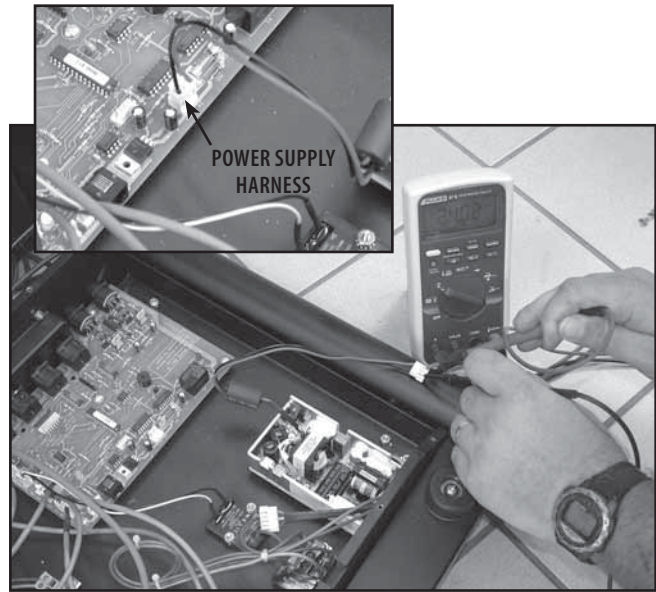

FIGURE 4.8
5. If LED is not illuminated, remove the Power Supply Harness from the Control Board. Set Digital Multimeter to VDC and connect the Multimeter Leads to the Power Supply Harness as shown in Figure 4.8. Reading should be 24 VDC ± 1.5V.